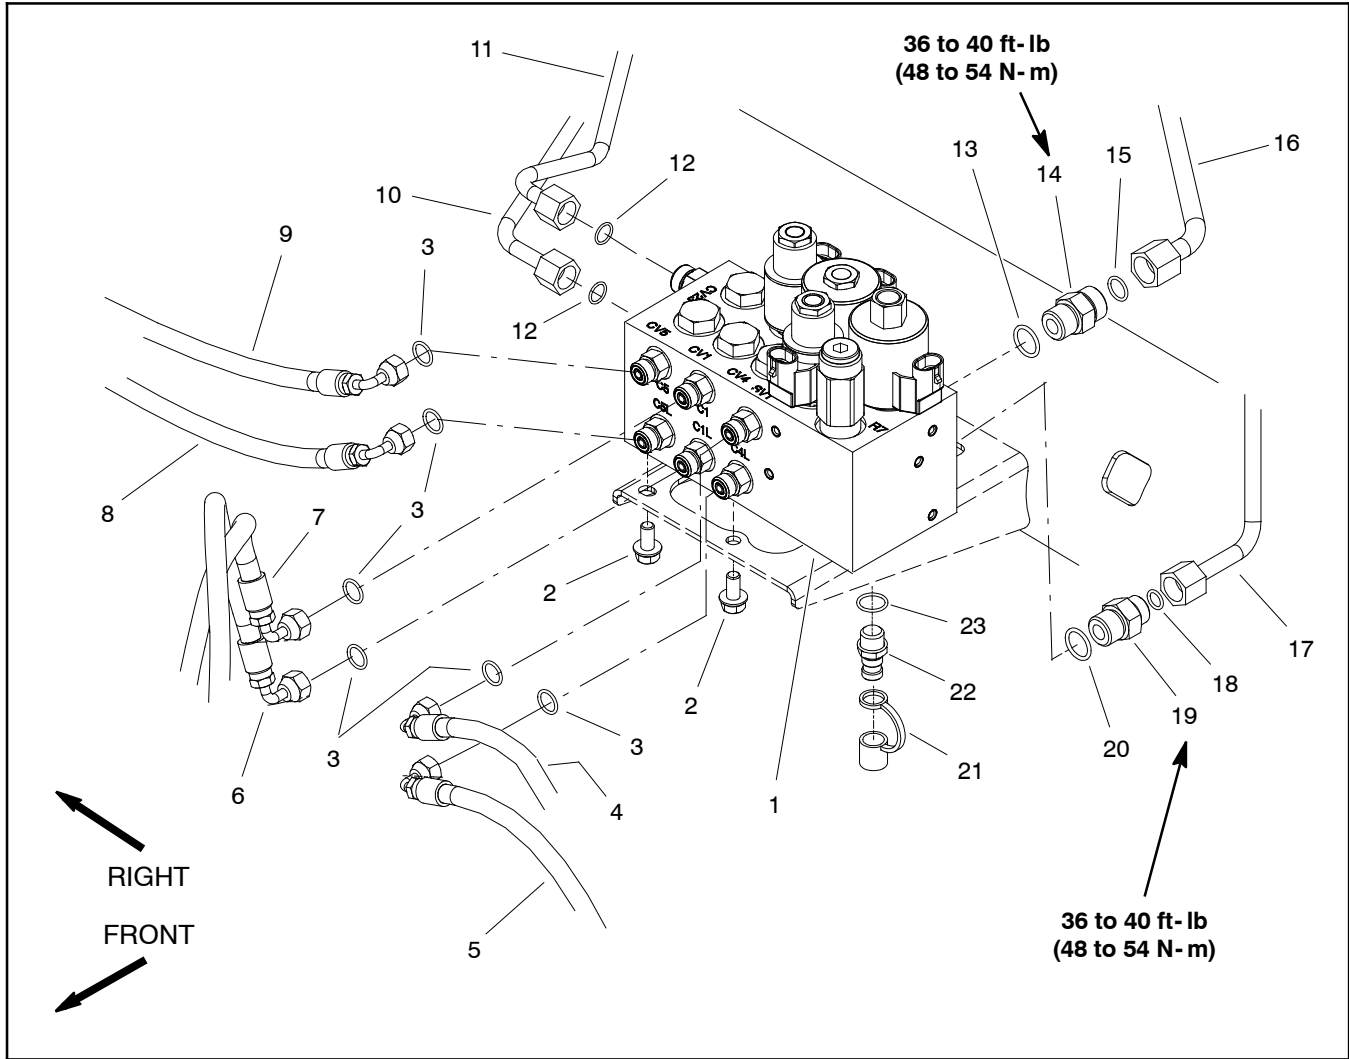

Figure 77
Removal (Fig. 77)
Installation (Fig. 77)
C. Install fittings into manifold. Torque fittings to torque values identified in Figures 77 and 78.
2. Position lift control manifold to frame. Install two (2) flange head screws but do not fully tighten.
5. Secure hydraulic manifold to frame by tightening two (2) flange head screws.